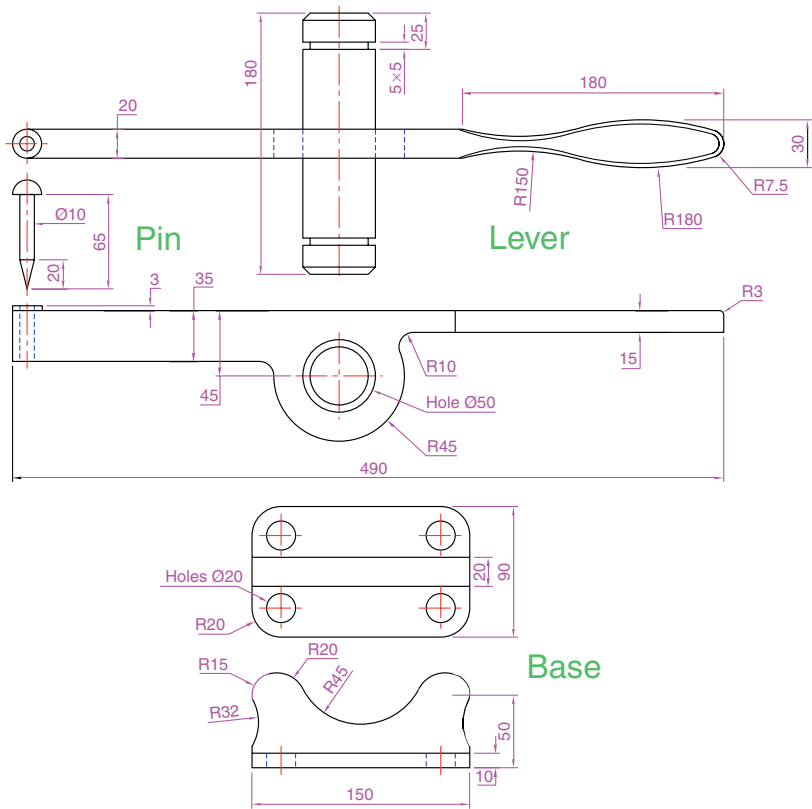
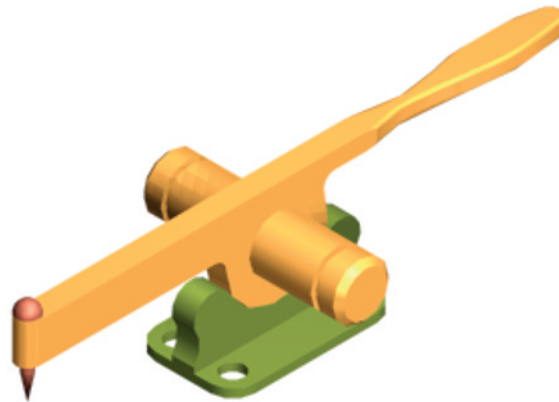

Fig. 17.39 Exercise 4 – details of shapes and sizes
Fig. 17.40 Exercise 4 – a rendering
4. A point marking device is shown in two two-view projections in Fig. 17.39. The device is composed of three parts – a base, an arm and a pin. Construct a 3D model of the assembled device and add appropriate materials to each part. Then add lighting to the scene and render in a **SW Isometric** view (Fig. 17.40).